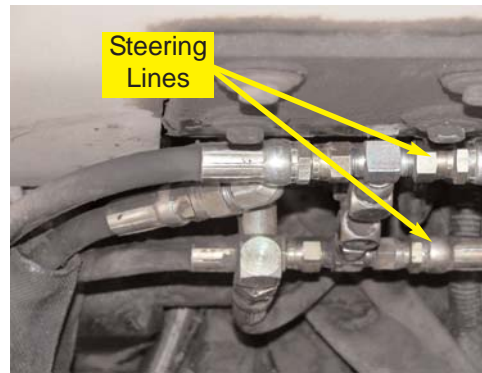

Figure 5a. Steering lines.
- a. Locate the steering lines which are the two left ports on the steering orbital. (Figure 5a.)